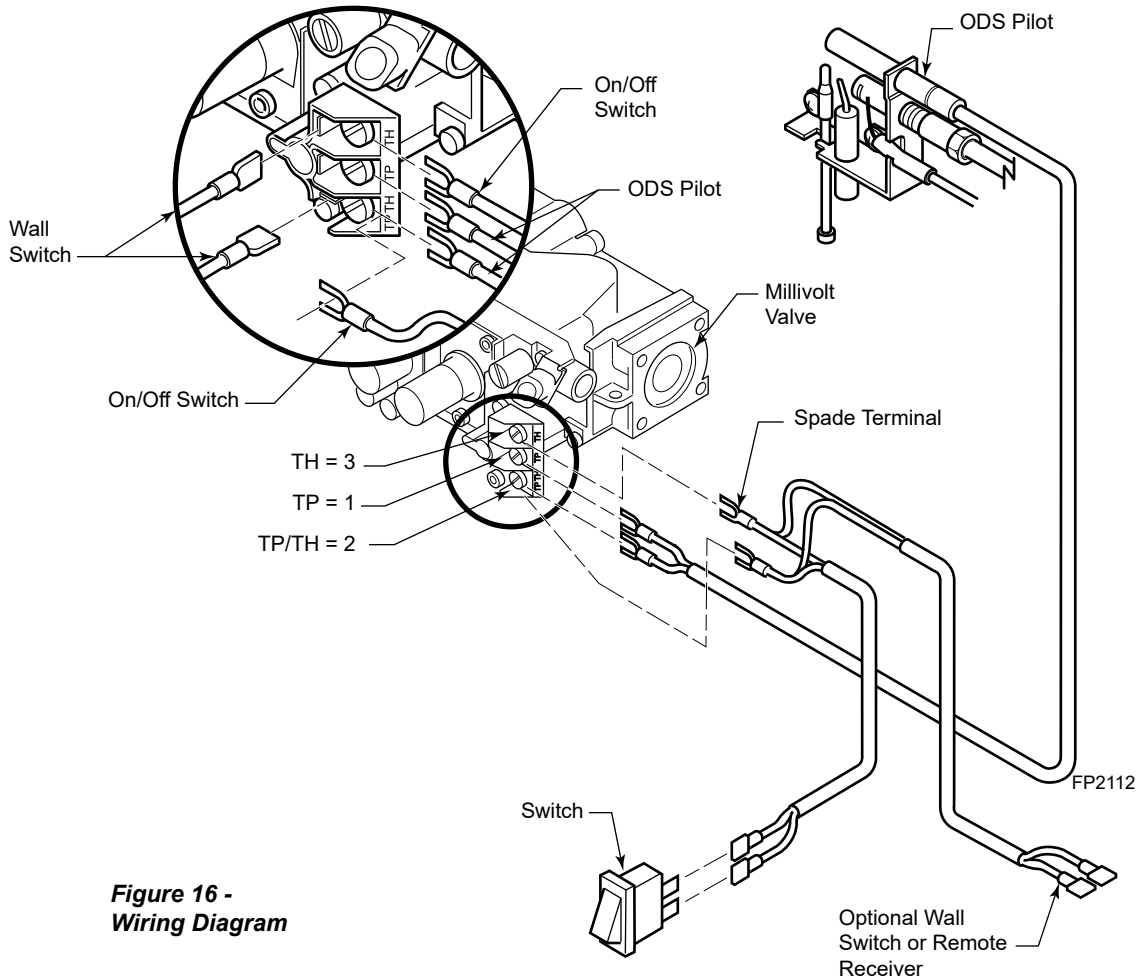

Figure 16 -
1. Connect the wires to the two .25" male connectors located on the left side of the valve when facing the unit. *Page 13, Figure 16.* Do not let wire touch grate or burner.